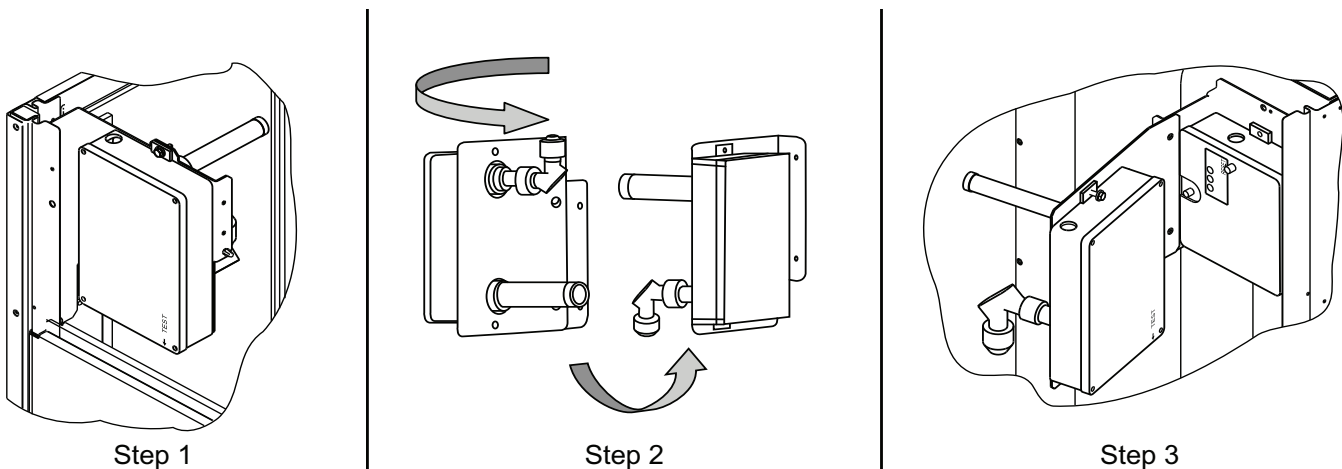

Fig. 53 — Completing Installation of Return Air Smoke Sensor
1. Unscrew the two screws holding the Return Air Smoke Detector assembly. See Fig. 53, Step 1. Save the screws.
2. Turn the assembly 90 degrees and then rotate end to end. Make sure that the elbow fitting is pointing down. See Fig. 53, Step 2.
3. Screw the sensor and detector plate into its operating position using screws from Step 1. See Fig. 53, Step 3.